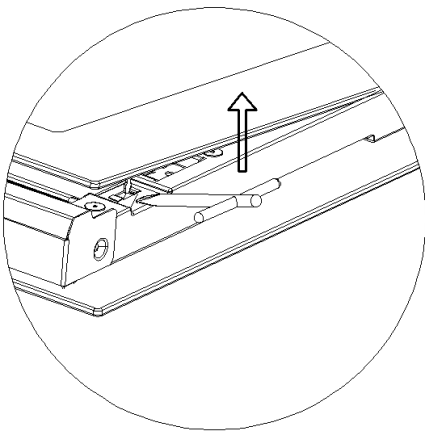

Figure 3
2. To drive up ② pointed tool bilaterally so that loosen the inside glass, as shown in figure 3